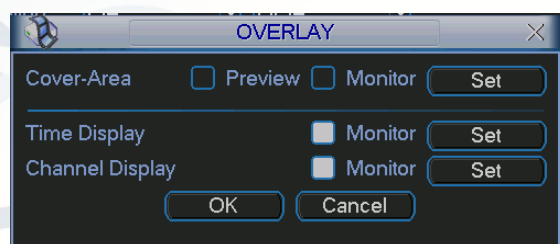

Figure 5-25
- **Overlay:** Click overlay button, you can see the interface pop up box shown in Figure 5-25.